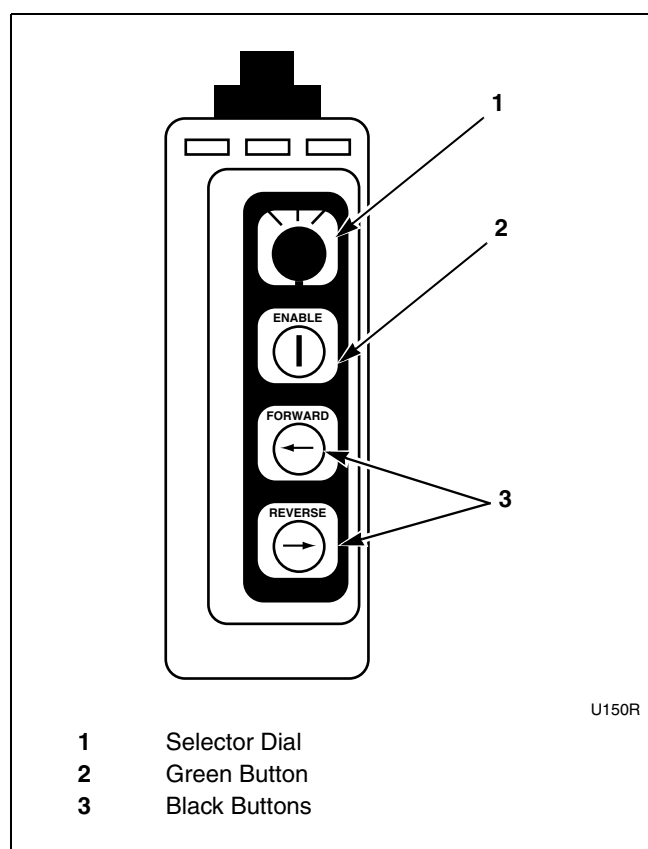

Figure 9
The tilt mechanism is controlled via a pendant switch (refer to *Figure 9*), which is suspended from a point just above the electrical panel on the left side of the washer-extractor. Access height has been determined based upon an average-sized person.
2. Turn the selector dial on the pendant switch right to the forward tilt position. Refer to *Figure 9*.
3. While holding down the green ENABLE button, press the black FORWARD button. Refer to *Figure 9*. The washer-extractor will slowly tilt forward, and the basket will rotate clockwise.
5. To lower the washer-extractor, turn the selector dial back to the center position. Refer to *Figure 9*.
2. Turn the selector dial on the pendant switch left to the reverse tilt position. Refer to *Figure 9*.
3. While holding down the green ENABLE button, press the black REVERSE button. Refer to *Figure 9*. The washer-extractor will slowly tilt backward and the basket will rotate counterclockwise.
5. To lower the washer-extractor, turn the selector back to the center position. Refer to *Figure 9*.